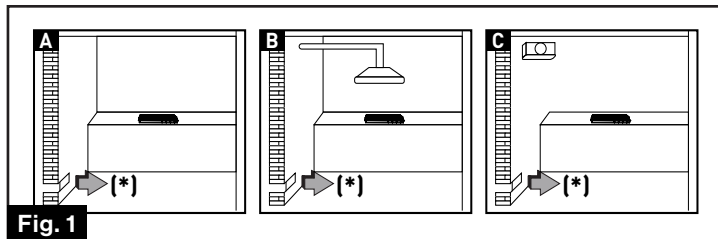

Fig. 1
- The room where the appliance is installed must be permanently ventilated so as to guarantee correct functioning according to the National Rules in force. The quantity of air needed is that required for a regular combustion of the gas and for the ventilation of the room and whose volume must be no less than 706.3 cu. ft. The natural flow of air must be directly through permanent openings in the walls (that go through to the outside) of the room to be ventilated with a minimum cross free section of 15.5 sq.in for appliance fitted with the Flame Safety Device (FSD) on each burner (see A of Fig. 1). These openings must be positioned so they cannot be never obstructed.
- Gas appliances must always discharge the products of combustion through extractors connected to flues or directly to the outside (see B of Fig.1). If it is impossible to use an extractor, a fan installed on the window or on a wall facing the outside is allowed and should be switched on every time the appliance is used (see B of Fig.1), provided the rules and regulations in force relating to ventilation.
- When a gas appliance is being used it produces heat and humidity in the room where it is installed. For this reason the room must be well ventilated, keep the natural ventilation openings free (fig. 6) and switch on the mechanical aeration system (suction hood or electric fan (see B and C of Fig. 1).